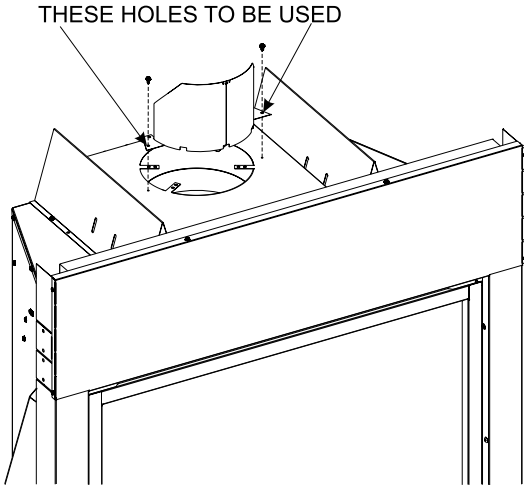

Figure 41 (vent pipe removed for clarity)
2. Attach to insulation box as shown in Figure 41.